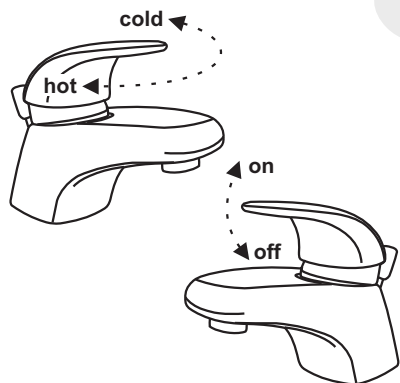

Figure 1 Illustrating lever function
- Fix the fitting to the pottery as shown in Figure 1, and connect the waste system.